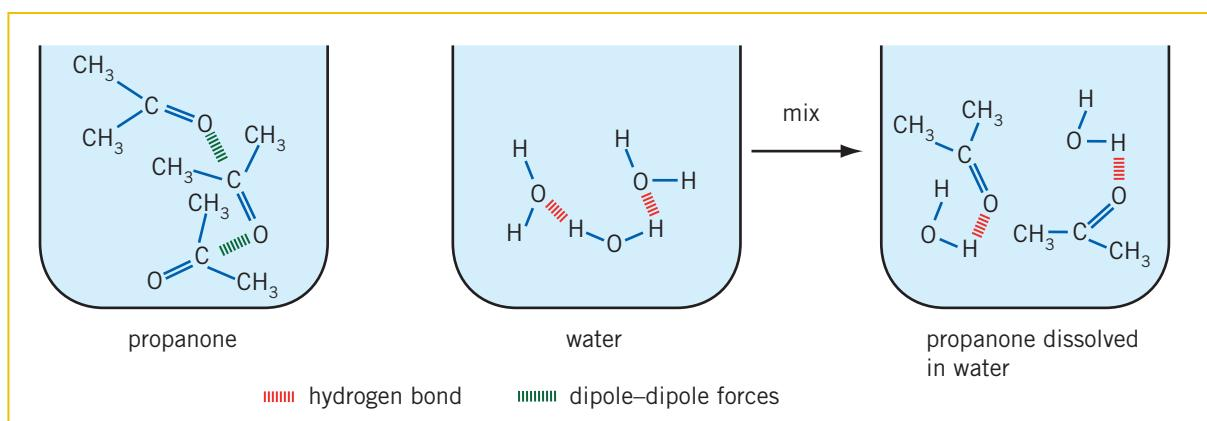

Figure 4.5 The dissolving of propanone in water
- The bonds that need to be broken in the dissolving process are the dipole–dipole forces between the propanone molecules and the hydrogen bonds between the water molecules (Figure 4.5).